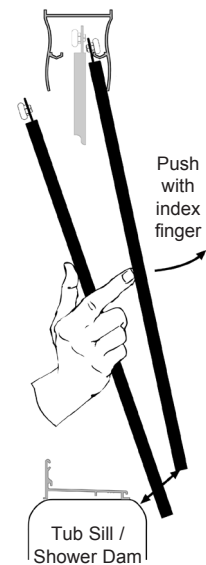

Figure 6B
- If someone is assisting you, have he or she stand in the shower and pull the bottom edge of the Inside Framed Door Panel (#6) towards them, to give you about 2" of clearance for the next step. If you are installing the doors by yourself, you will need to push the Inside Framed Door Panel (#6) out of your way as we describe here. Hold the Outside Framed Door Panel (#5) so that the Rollers (#11) face towards you. Lift the Outside Framed Door Panel (#5) and use the index finger of both hands to carefully push the Inside Framed Door Panel (#6) back and out of the way as you lift the Outside Framed Door Panel (#5) up and over the Curb (#2). Insert the Top Rail (#10) up and into the Header (#1). Set the wheels into the front track of the Header (#1) (See Figure 6B).